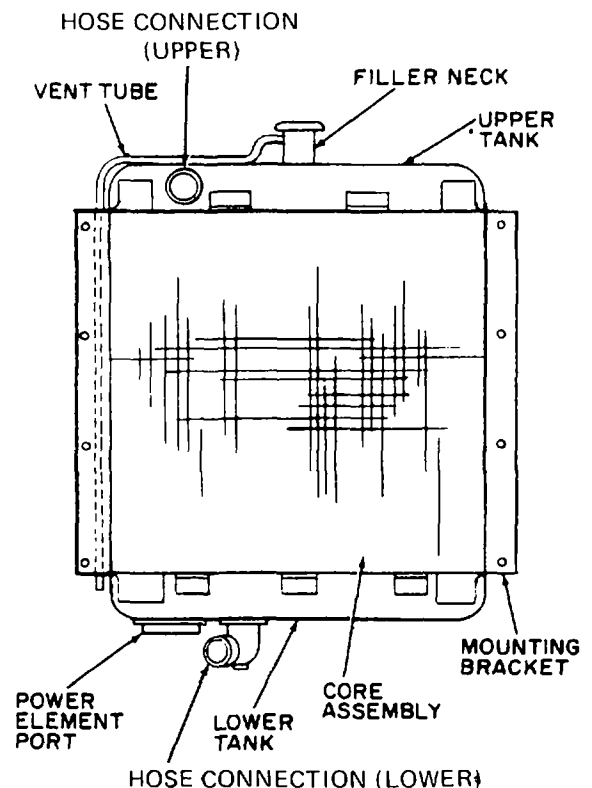

Figure 8-2. Radiator Assembly
(1) Plug shutter power element port on the bottom radiator tank (refer to figure 8-2). Check that vent tube is free of obstructions by forcing compressed air through the tube. Install radiator cap.
a. Disassembly. Refer to figure 8-2.